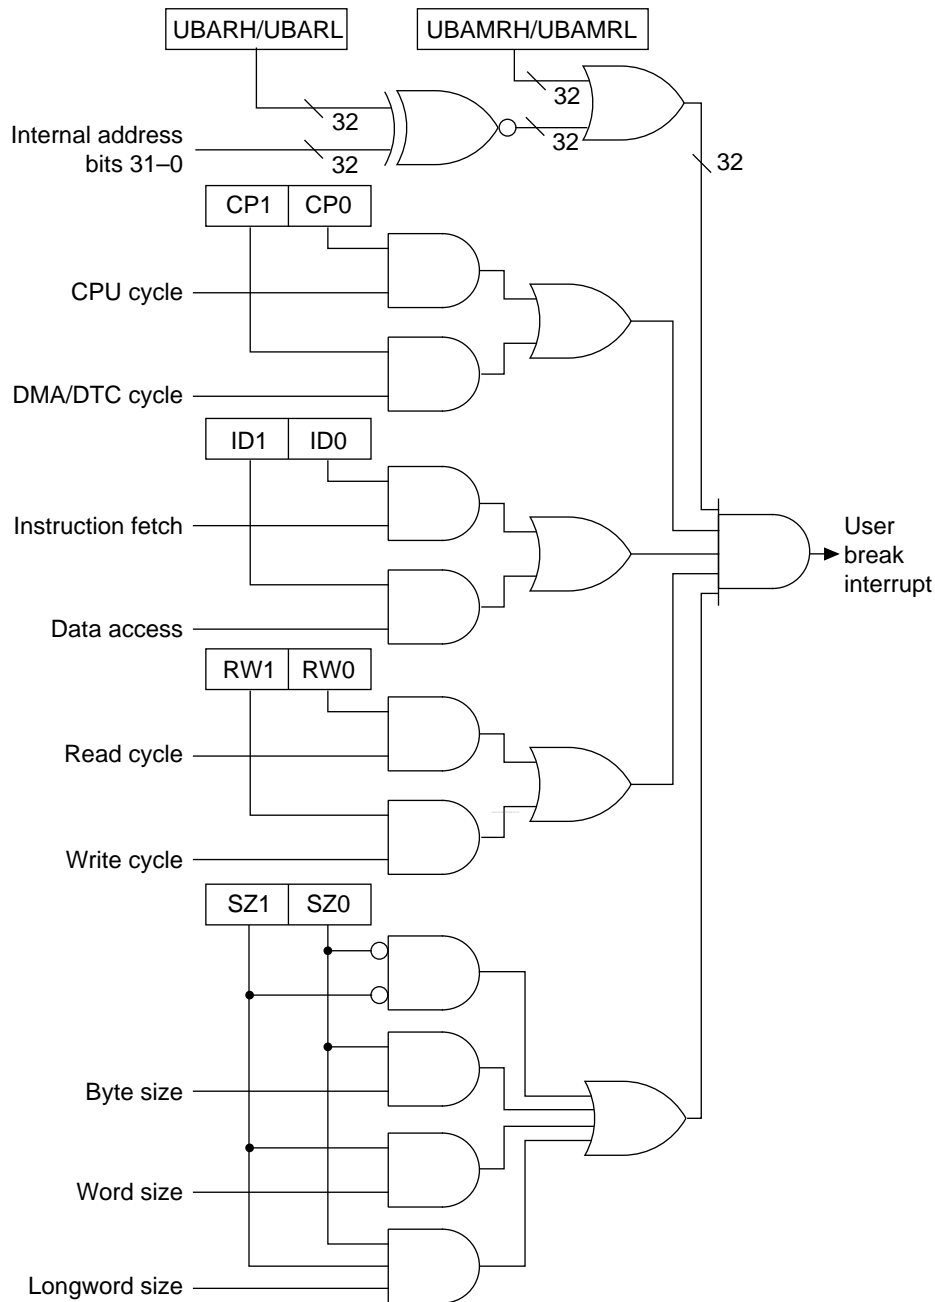

Figure 7.2 Break Condition Judgment Method
2. The UBC uses the method shown in figure 7.2 to judge whether set conditions have been fulfilled. When the set conditions are satisfied, the UBC sends a user break interrupt request signal to the interrupt controller (INTC).
3. The interrupt controller checks the accepted user break interrupt request signal's priority level. The user break interrupt has priority level 15, so it is accepted only if the interrupt mask level in bits I3–I0 in the status register (SR) is 14 or lower. When the I3–I0 bit level is 15, the user break interrupt cannot be accepted but it is held pending until user break interrupt exception processing can be carried out. Consequently, user break interrupts within NMI exception service routines cannot be accepted, since the I3–I0 bit level is 15. However, if the I3–I0 bit level is changed to 14 or lower at the start of the NMI exception service routine, user break interrupts become acceptable thereafter. Section 6, Interrupt Controller (INTC), describes the handling of priority levels in greater detail.